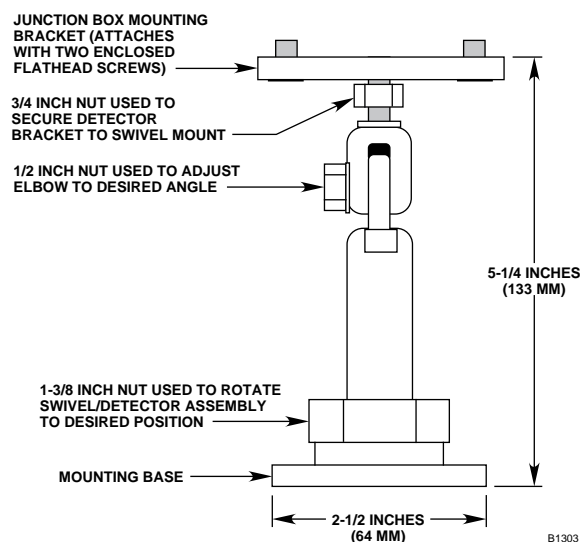

Figure 7—Q9001G Swivel Mounting Bracket Dimensions
3. Mount the detector junction box base and mounting bracket assembly on the wall or ceiling. See Figures 7 and 8 for dimensions of the mounting bracket. The mounting surface should be free of excessive heat and vibration.